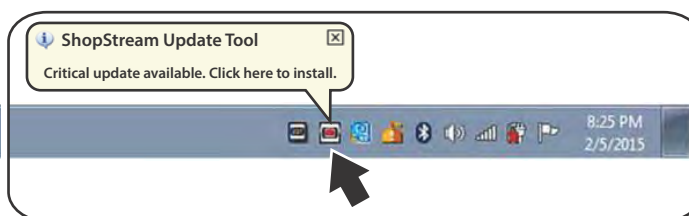

Figure 13-8 Typical update installation message
When a software update is ready for installation, an installation update message will appear (Figure 13-8). You can select the message or the SST icon from the Windows taskbar notification area at anytime to start the software update installation process.
1. Select the software update available message (Figure 13-8), or the SST icon from the notification area.